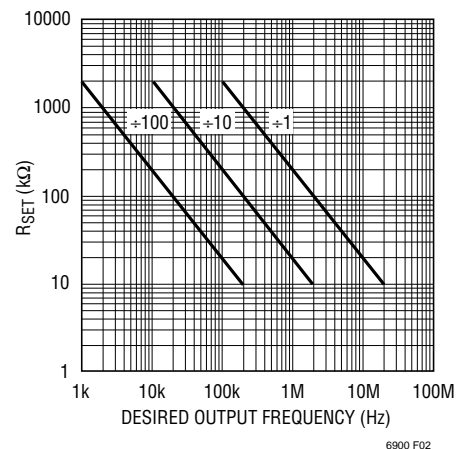

Figure 2. R_{SET} vs Desired Output Frequency
0.5V to select $\div 1$. This is the highest frequency range, with the master output frequency passed directly to OUT. The DIV pin may be floated or driven to midsupply to select $\div 10$, the intermediate frequency range. The lowest frequency range, $\div 100$, is selected by tying DIV to V^+ or driving it to within 0.4V of V^+ . Figure 2 shows the relationship between R_{SET} , divider setting and output frequency, including the overlapping frequency ranges near 100kHz and 1MHz.